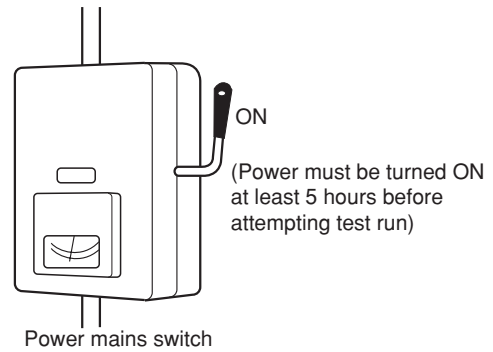

Fig. 8-1
- (1) All loose matter is removed from the cabinet, especially steel filings, bits of wire, and clips.
- (2) The control wiring is correctly connected and all electrical connections are tight.
- (3) The transportation pads for the indoor fan have been removed. If not, remove them now.
- (4) The power has been connected to the unit for at least 5 hours before starting the compressor. The bottom of the compressor should be warm to the touch and the crankcase heater around the feet of the compressor should be hot to the touch. (Fig. 8-1)